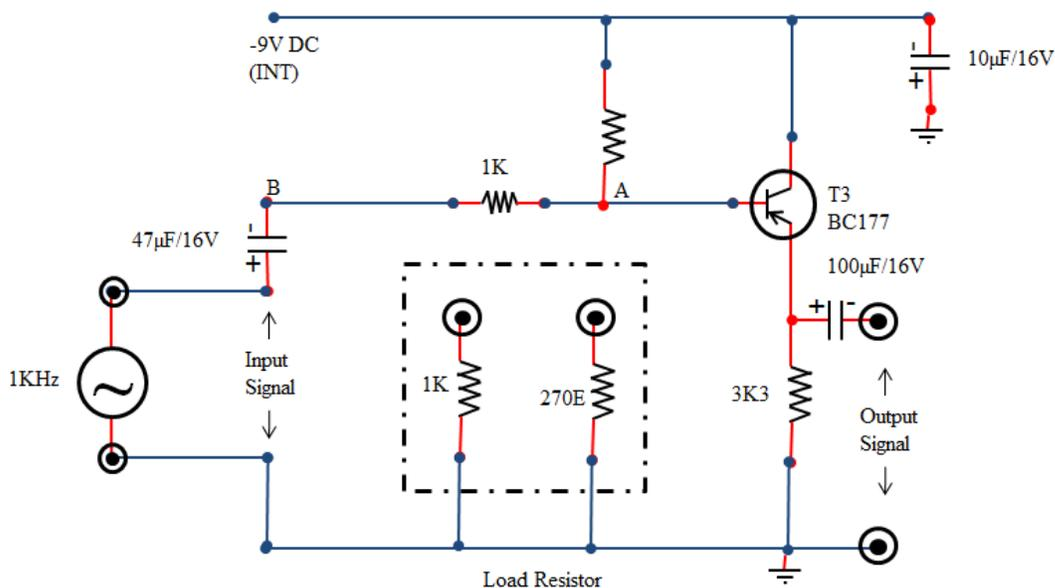

Figure 4. Study of Common Collector Amplifier circuit
1. Turn the knob of 1 KHz sine wave generator to fully anti – clockwise direction and using connecting leads connect the output of sine wave generator to the input of common collector transistor amplifier. Also connect 1K resistor as load to the output as shown in Figure 4.